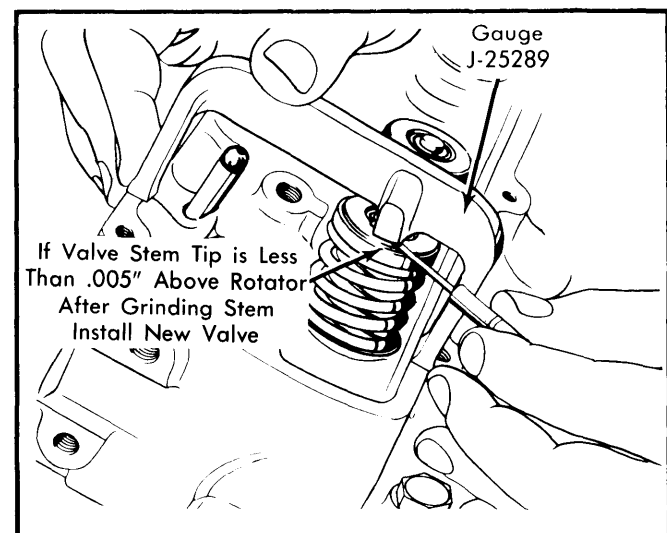

Fig. 5 Measuring Rotator Height
3) Measure clearance between gauge and valve rotator. Clearance must be .030" minimum. If any valve is less than .005" above rotator, valve is too short and must be replaced. See Fig. 5.